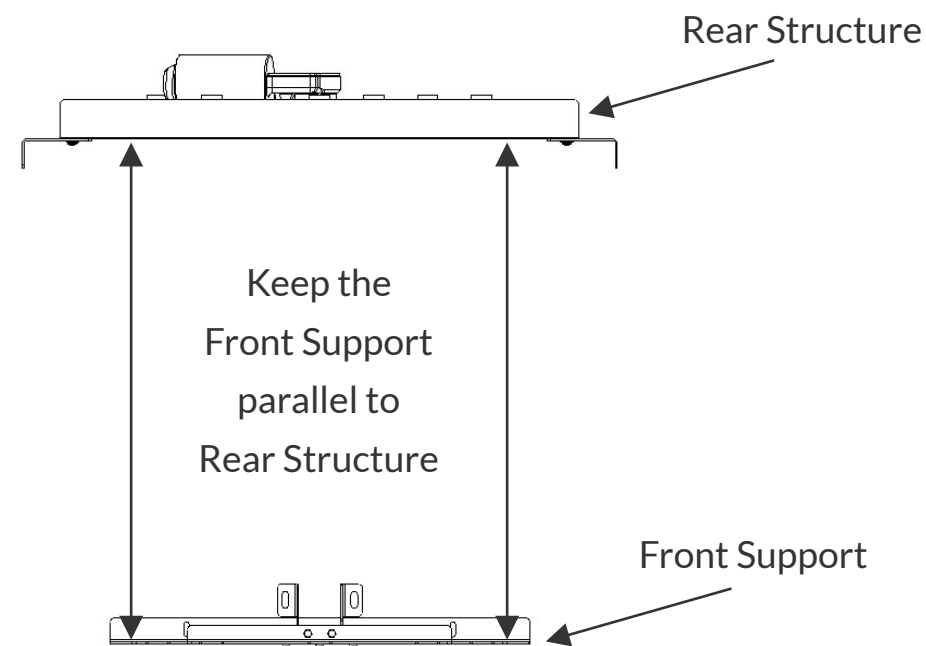

Figure 4 (upper view)
b) When installing the Front Support, which is responsible for holding the skewers, position it so that it is aligned and parallel with the rear skewer slots, keeping it centered on the Front Wall of your grill to avoid misalignment of the skewers. See Figure 4.